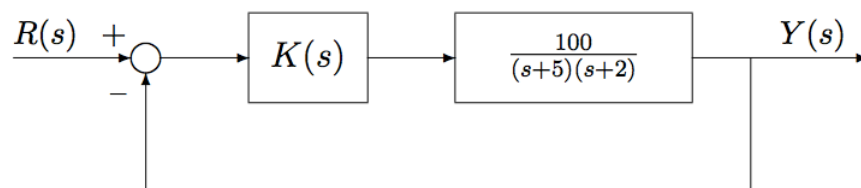

Figure 6: Racing vehicle control system
7. The engine, body and tires of a racing vehicle affect the acceleration and speed attainable. The speed control of a car is represented in Figure 6, where $Y(s)$ is the speed. The driver wants to drive the car at 100 km/hr. What speed can he attain